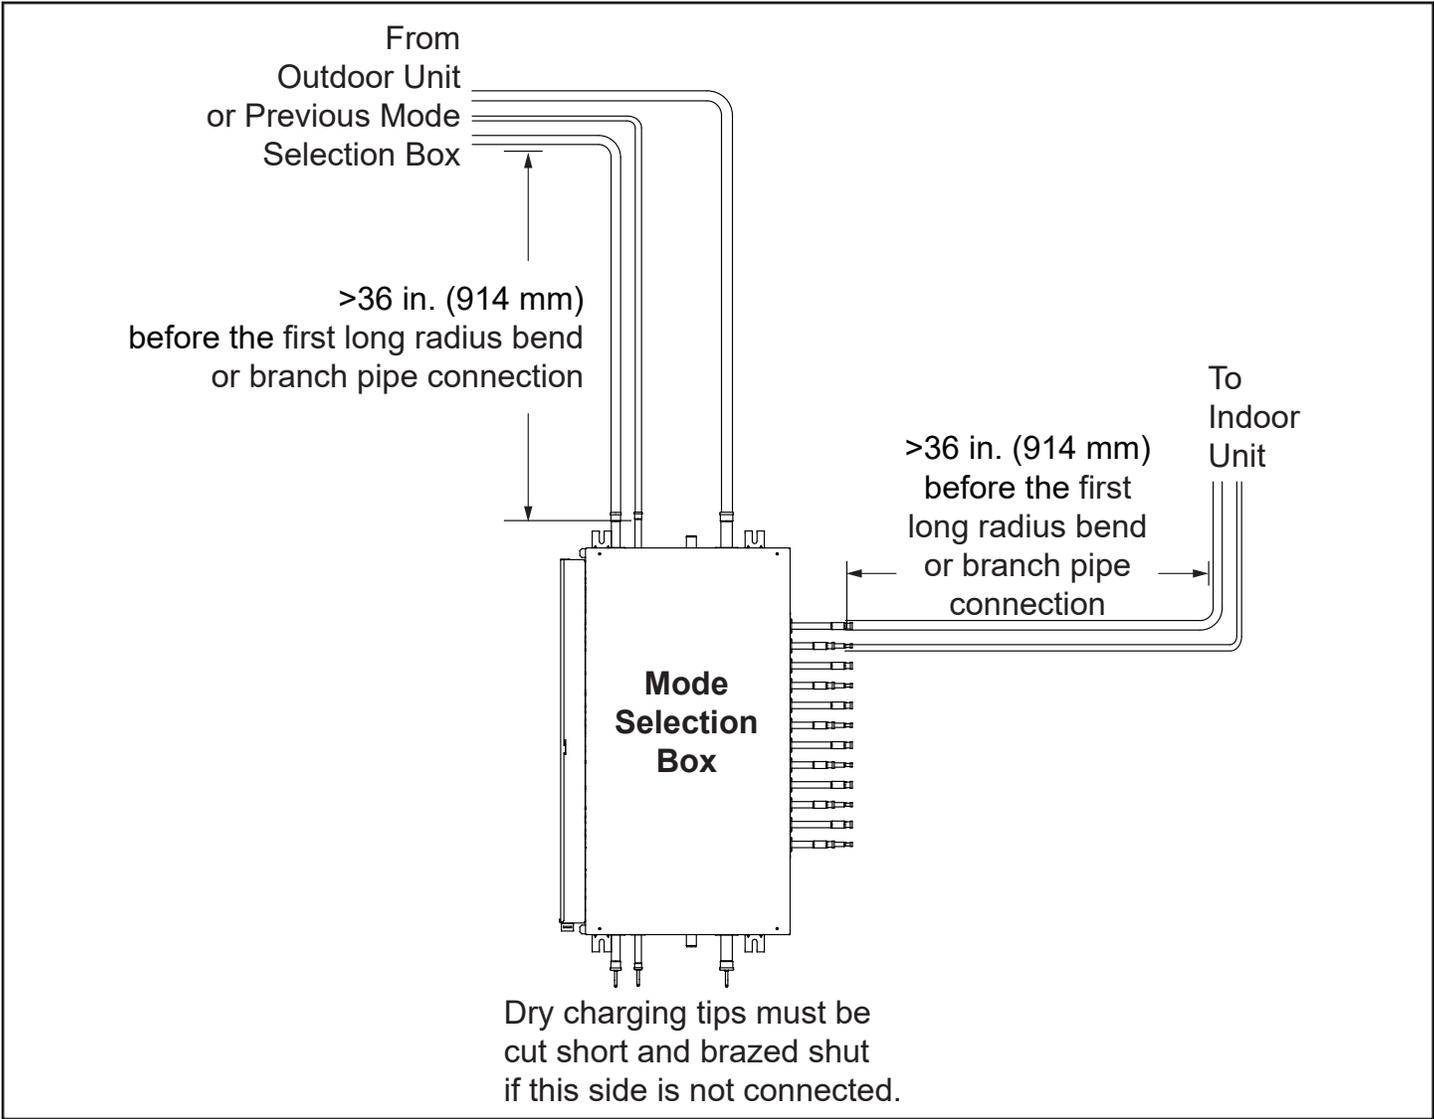

Figure 6. Mode Selection Box Piping
- Provide sufficient clearance around mode selection box to allow 3 feet of straight pipe before the first elbow or branch pipe is installed. See Figure 6.
Use the provided suspension brackets to suspend the mode selection box(es) between the outdoor and indoor units. The mode selection box location must be able to accommodate the size of the box, as well as the required 3 feet of straight pipe length between the box and the first elbow or branch pipe. Refer to the dimension drawing on Page 3 and Figure 6.
- Allow a minimum of 3 feet between the mode selection box and the first elbow or branch pipe in refrigerant piping. See Figure 6.